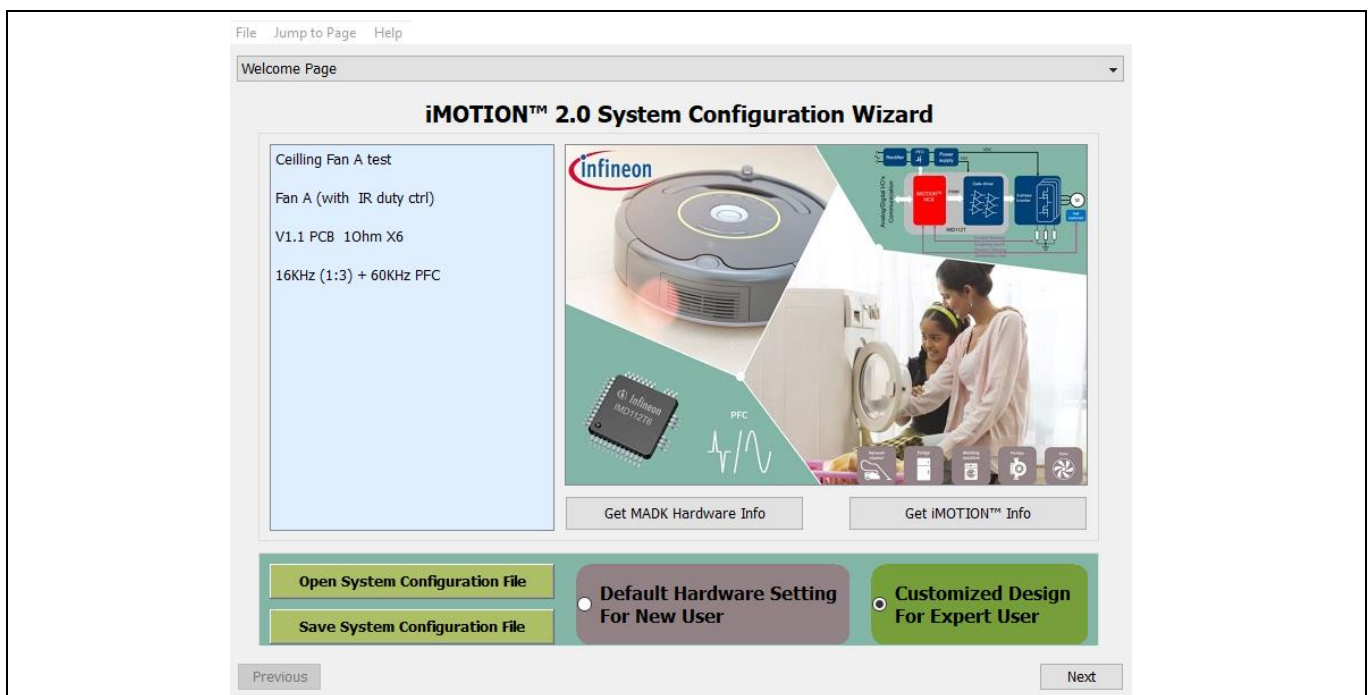
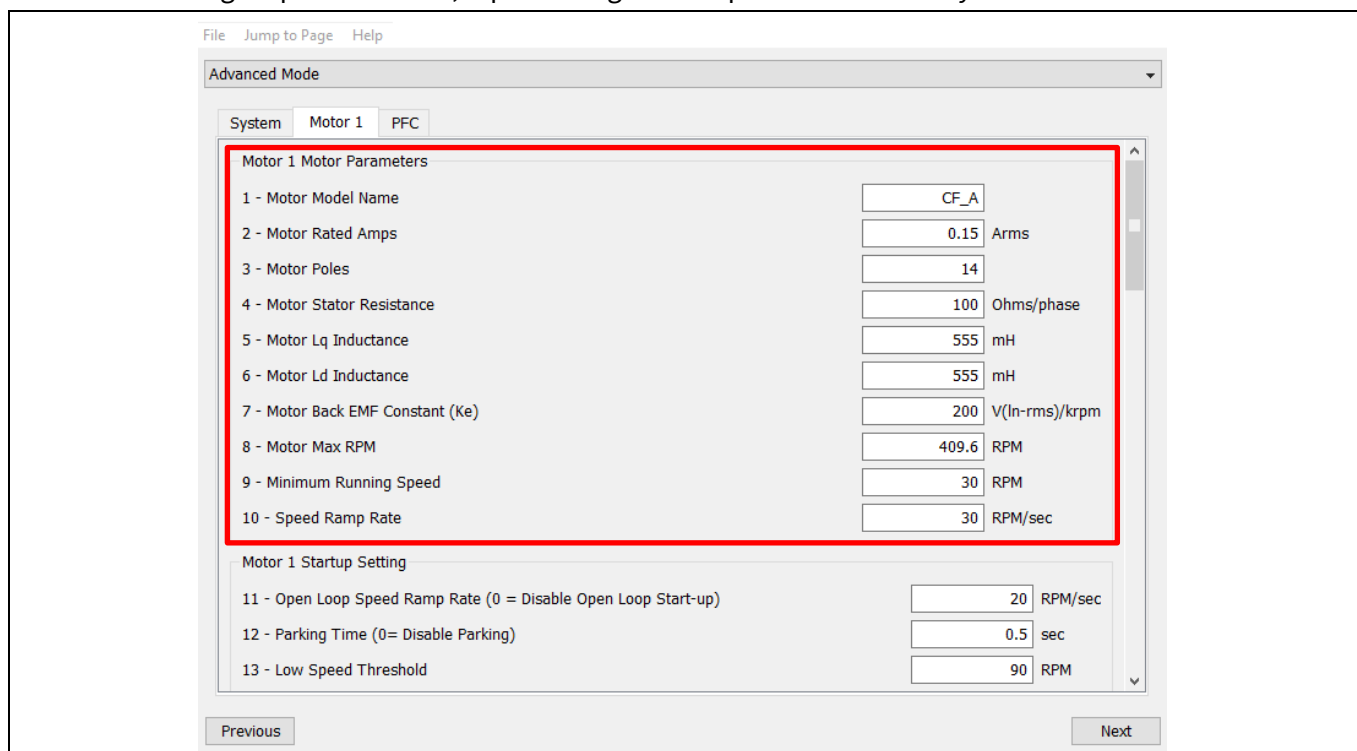

Figure 7 Wizard welcome page
Figure 8 Motor parameters input
1. Use MCEWizard to open the MCEWizard file (‘.mc2’) as shown in Figure 7, then enter the target motor’s system parameters in “Advanced Mode > Motor 1” as shown in Figure 8, which will be used to calculate the controller’s digital parameter set, representing the complete motor drive system.